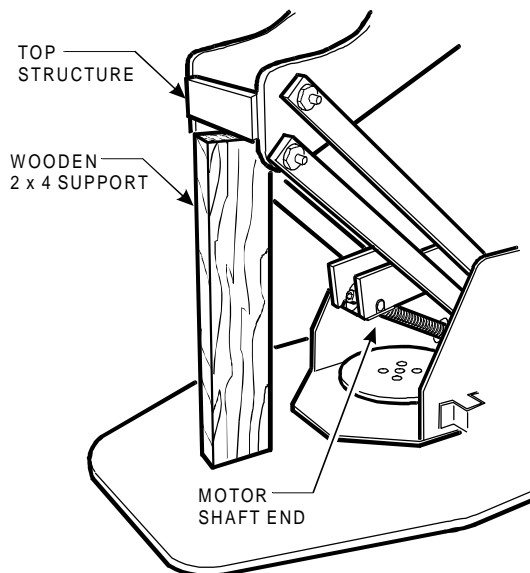

Figure 1
2. Remove the plastic covers to expose the motor as shown (See Figure 1).
6. Disassembly the trunnion block assembly by removing the (2) 1/4-20 socket head screws (See Figure 1).